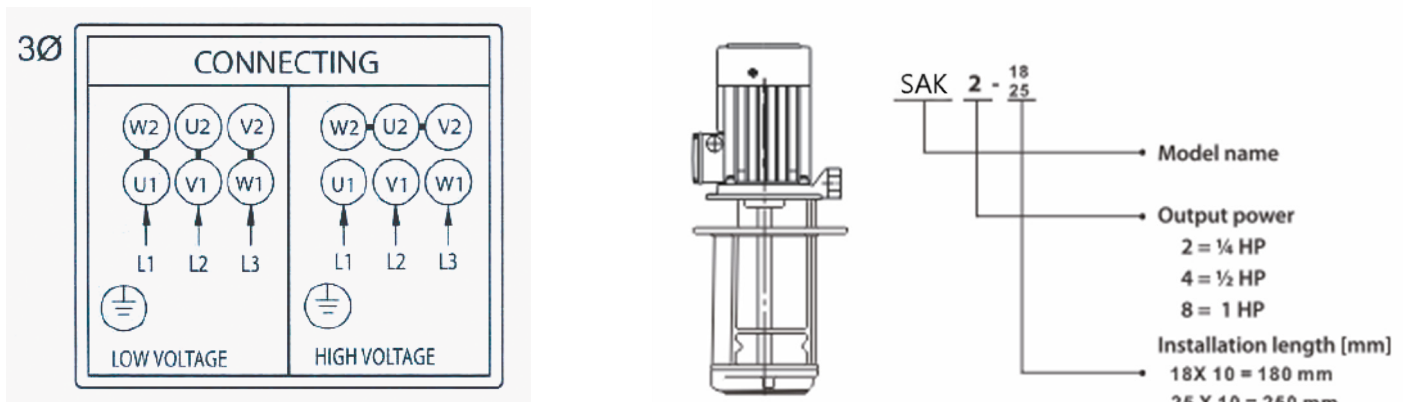

Fig.3
- For three phase motors, check the fan cover for guidance on the correct direction of rotation. If the rotation is wrong, you can reverse the direction of rotation by interchanging any two of the incoming supply wires as shown in fig.3.